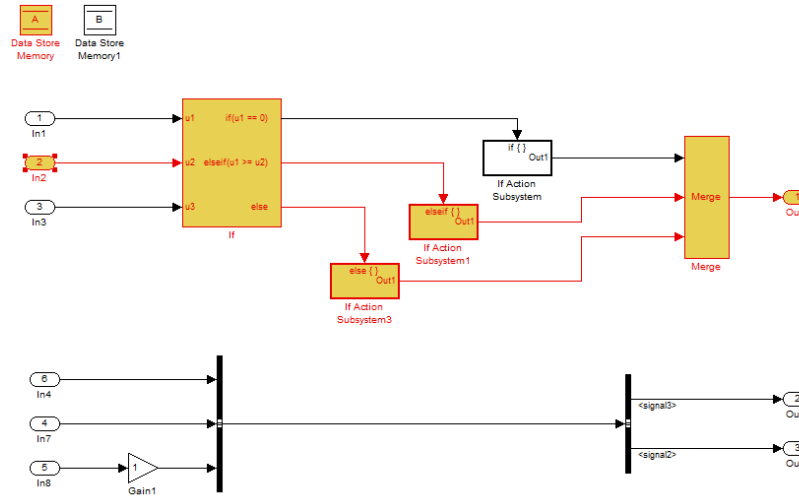

Figure 4: Resulting model after **Reach From Selected** operation.
1. Let us perform a reachability analysis to find all possible dependencies of the **Inport** block **In2**. To do this, right-click on the **In2** block and select the **Reach From Selected** option. The resulting model is shown in Figure 4. Due to the fact that **In2** is used in the last two condition checks of the **If** block and its data flow is traced to **Outport** block **Out1**. Doing a reachability analysis on **In2** also shows clearly that it impacts the **Data Store Memory** block **A**.